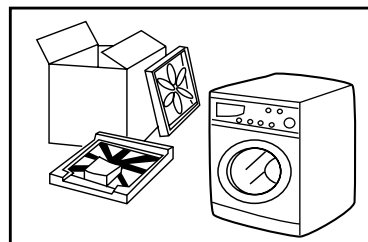

Fig. 1
- Remove all the packing materials (including the foam base) to prevent vibration during use, as shown in Fig. 1.